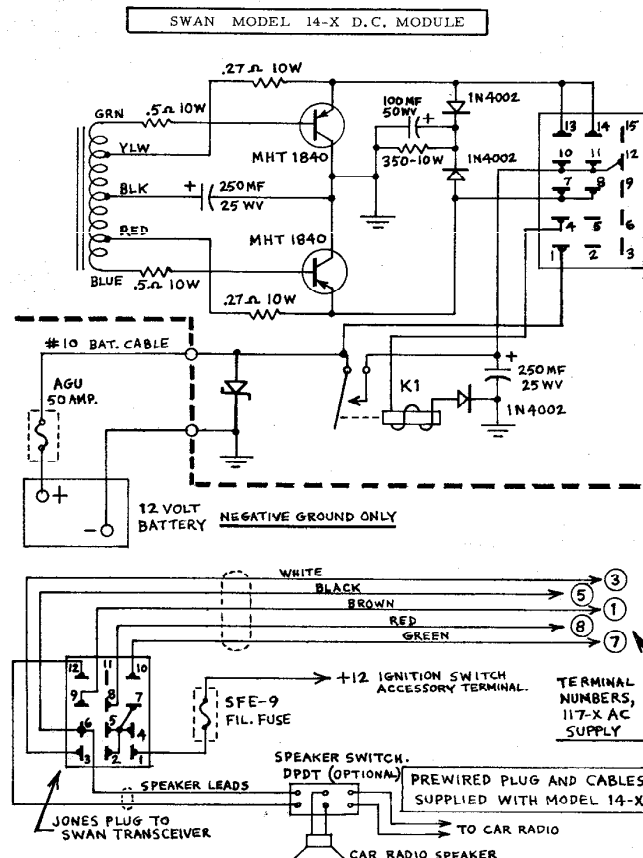

FIG. 8 MODEL 14-X D.C. MODULE
- (A) Connect the primary leads from the power supply directly to the battery terminals. Mount the ceramic fuse block with 50 amp. fuse in series with the positive lead. (With positive ground systems, the fuse goes in the negative lead). If possible, drill and tap a hole in the battery post itself for a contact stud. The more intimately the supply is connected to the battery, the less chance there is for voltage transients to reach it. Solder lugs are provided for the ends of the various leads.
- (B) The filament line comes prewired to the Jones plug, and has an in-line 9 amp. fuse. Connect this line to the ignition switch accessory terminal, as recommended in the schematic, Fig. 8. In most cars the 12 volts at this terminal is switched off while twisting the ignition key to start the engine. Thus, the relay in the power supply will also be turned off, and the transistors will not be subjected to the sharp transients put out by the starter motor. NOTE: The car radio is normally connected to the accessory terminal for the same reason. It may be more convenient to locate the 12 volt line going to the car radio, and splice into it with the transceiver filament line. Look for